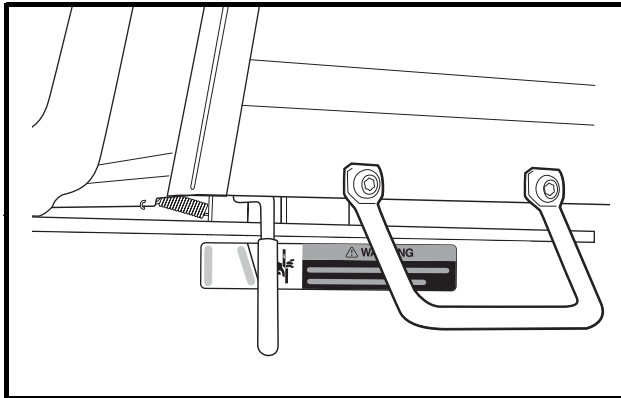
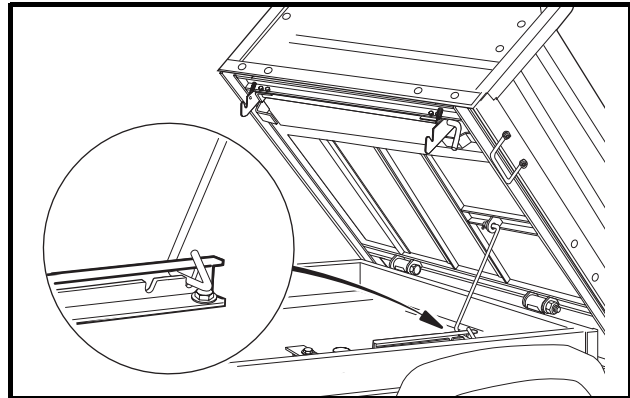

Figure 8 Bed Latch
Figure 9 Prop Rod
The bed latch (**Figure 8**) has an automatically engaging prop rod and prop rod track (**Figure 9**) as standard features. To lift the bed, pull the bed latch handle toward the rear of the vehicle and lift the bed. The prop rod will come to rest in one of the notches in the prop rod track. To close the bed, lift the bed so that the prop rod is no longer supported in one of the track notches. Push the prop rod toward the front of the vehicle to free it from the track notch and gently lower the bed. **DO NOT** drop the bed. **See following DANGER, WARNING, and NOTE.**
**NOTE:** HUV 4421-G and HUV 4421-D vehicles are equipped with an automatically engaging prop rod (Figure 9), unless equipped with the electric bed lift accessory.